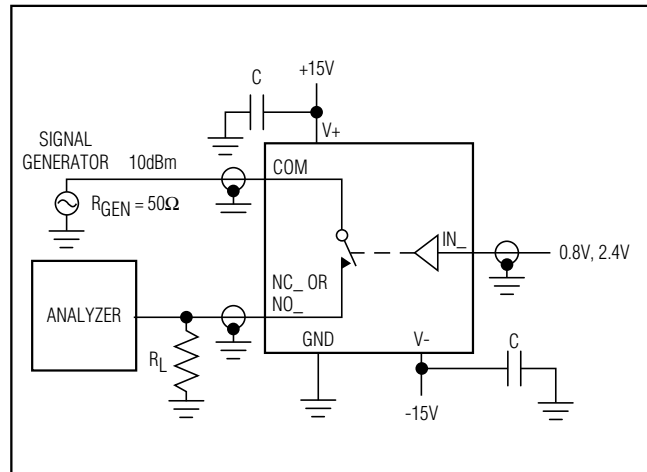

Figure 4. Off-Isolation Test Circuit
**Note 6:** Between any two switches. See Figure 4.